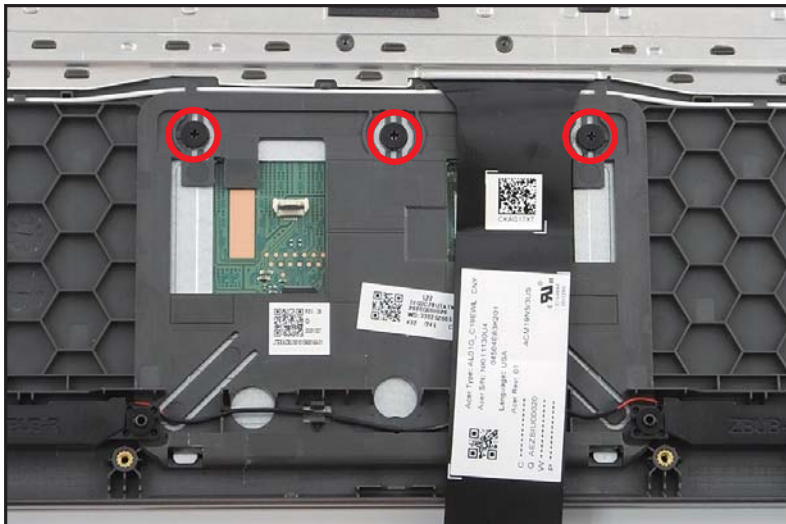

Figure 1-12. Touchpad Module Removal
4. Remove three (3) screws securing the touchpad module in place (Figure 1-12).